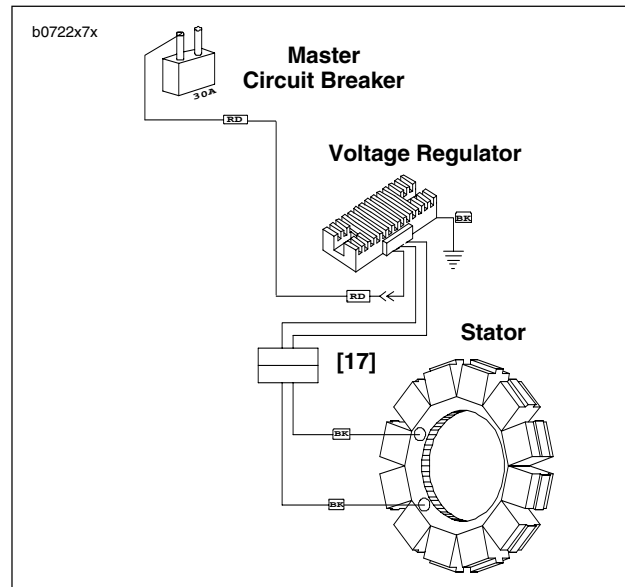

Figure 7-47. Voltage Regulator Connector [17]
- b. See Figure 7-47. Disconnect BK charging wire from gold post of main circuit breaker.